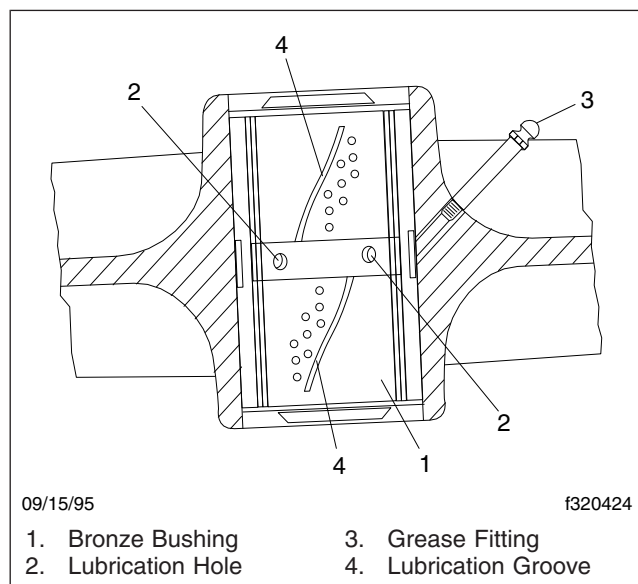

Fig. 10, Hendrickson RT2 and RTE2 Series Bushing Lubrication
3. Use a multipurpose chassis grease, and lubricate the bronze, ball-indented bushings in the spring eyes at the grease fitting. See Fig. 10. Continue to lubricate until grease exits both ends of the bushing. If the pin will not accept lubricant, remove the pin and clean the lubrication channels where lubricant may have hardened.